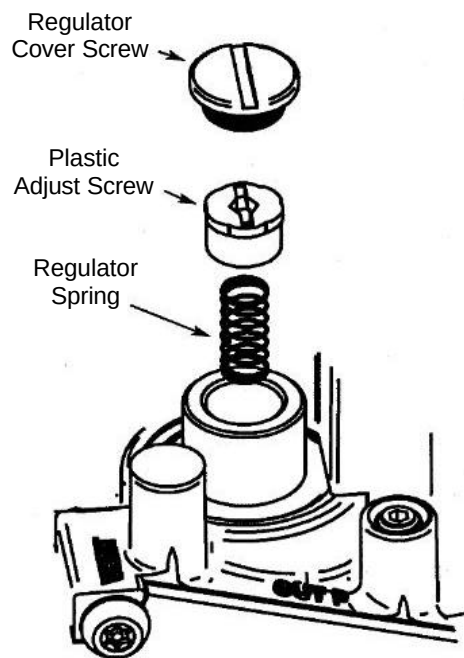

Figure 2
6. Remove regulator cover screw and turn regulator adjust screw clockwise (?) to increase pressure, or counterclockwise (?) to decrease pressure (see fig. 2). Always adjust regulator to provide the correct pressure according to the original equipment manufacturer's specifications listed on the appliance rating plate. Replace regulator cover screw and tighten securely.